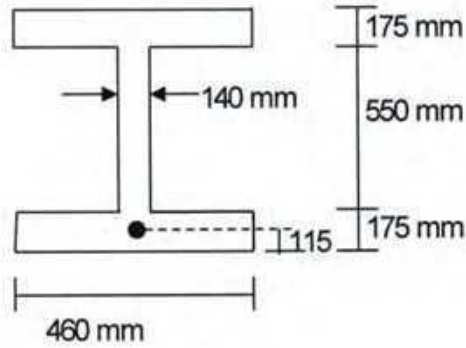

Fig. 4
3. (a) Calculate the ultimate moment capacity of the PC beam shown in Fig.4. The beam is prestressed with $A_{ps}=2450\text{mm}^2$ with an effective prestress, $f_{se}=1100\text{ ksi}$. The c.g. of steel is 115 mm above the bottom of the beam as shown. Given: $f_{pu}=1860\text{ MPa}$, $f'_c=48\text{ MPa}$ [15]